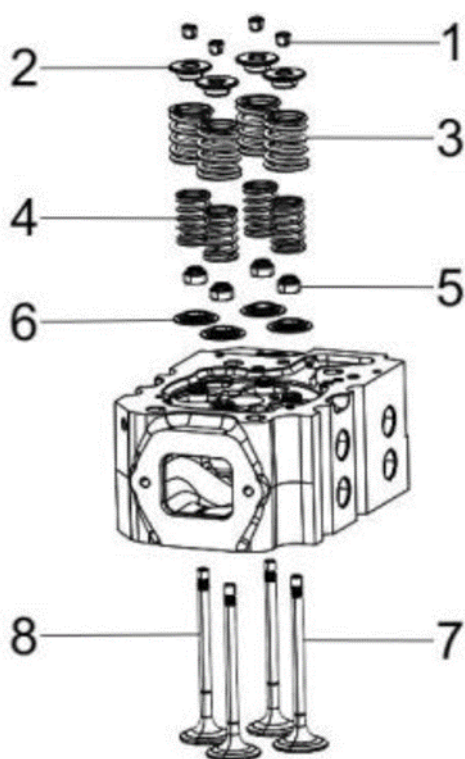

Figure 64. Cylinder Head Assembly
9. Remove the valve keeper (Figure 64, item 1).
11. Remove the spring top retainer (Figure 64, item 2) and outer/inner valve spring (Figure 64, items 3 and 4).
13. Turn the cylinder head so the exhaust port side faces down. Remove the intake and exhaust valves (Figure 64, items 7 and 8) from the cylinder head.
14. Remove the valve stem seals (Figure 64, item 5).
15. Remove the spring bottom retainer (Figure 64, item 6).